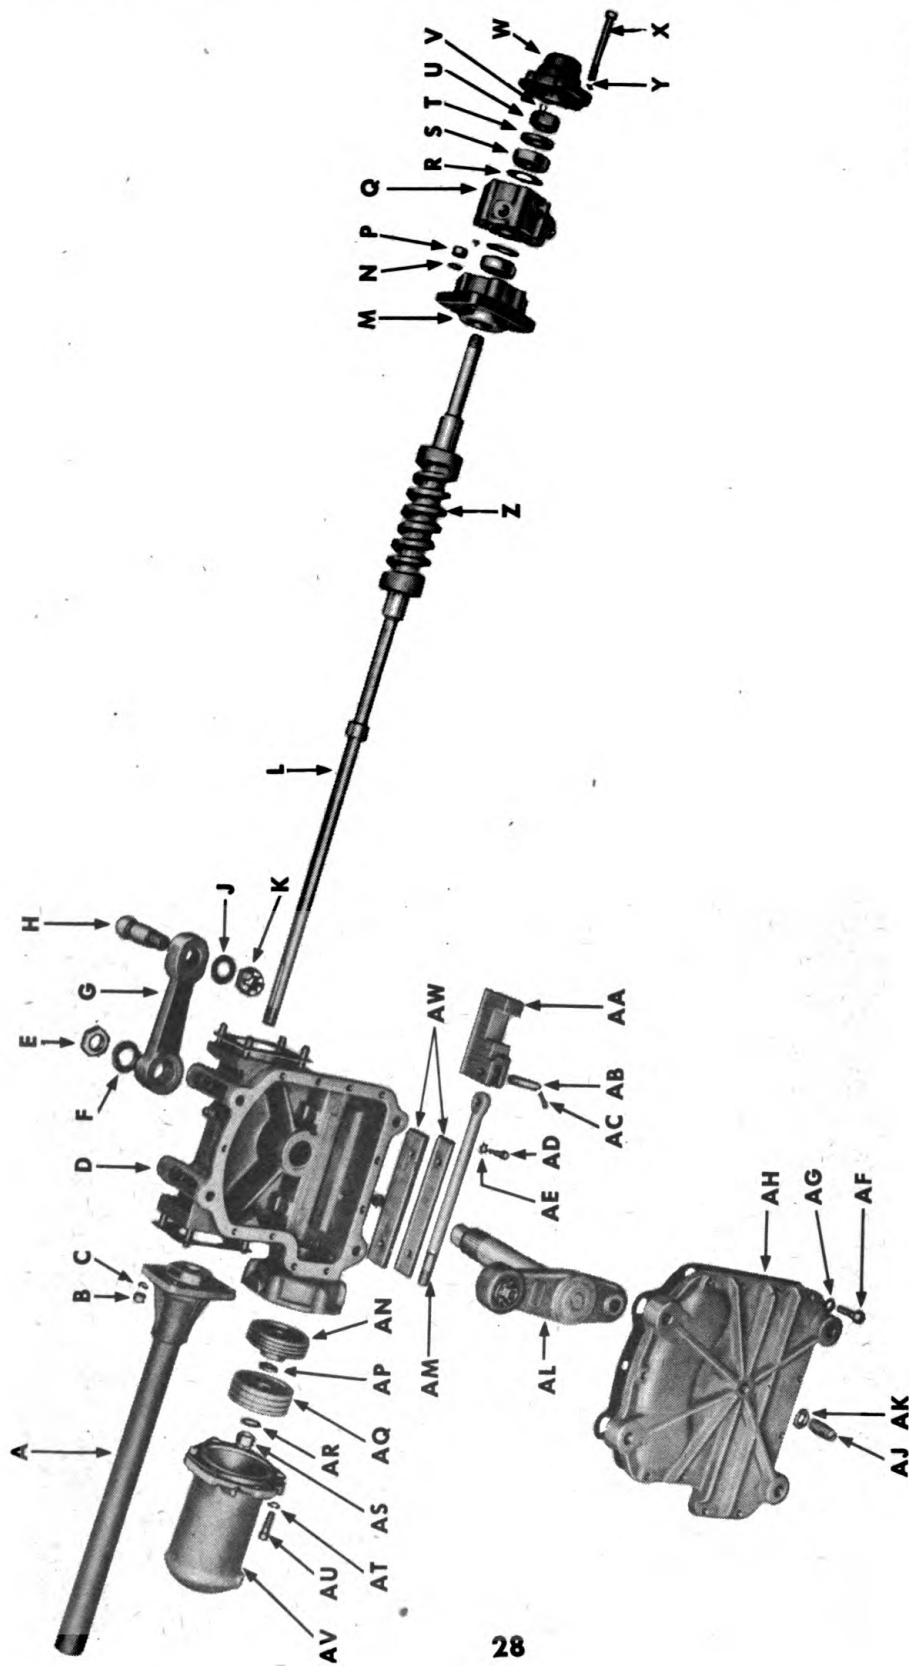

Figure 16—Steering Gear — Disassembled
d. Remove Upper Cover and Cam and Shaft (fig. 16). Remove four nuts and lock washers that hold upper cover to steering housing, and remove upper cover with jack tube assembly. Remove gasket. Remove four nuts and lock washers that hold control valve housing to steering gear housing, and remove valve housing and gasket. Remove bushing and oil seal from housing. Remove cam and shaft.
e. Remove Cylinder Housing and Lever Shaft Bushing (fig. 16). Remove nuts and lock washers that hold cylinder housing to gear housing, and remove cylinder housing and gasket. Press steering lever shaft bushing out of housing.
c. **Assemble Valve Housing (fig. 16).** Install bushing and oil seal in control valve housing. Install control valve housing and gasket, and secure with four nuts and lock washers. Install slides and slide block, and fasten slides with four cap screws and lock washers. Install piston rod in housing, and attach piston rod to slide block with pin and two cotter pins. Install steering lever shaft assembly in housing.
d. **Install Side Cover (fig. 16)** Install side cover and cover gasket on housing, and fasten with cap screws and lock washers. Install adjusting screw and lock nut turning screw up snug; then tighten nut.
Legend for Figure 16
e. **Loosen Housing Side Cover Adjusting Screw** (fig. 16). Loosen lock nut, then loosen side cover adjusting screw.
(3) **ADJUST BEARINGS** (fig. 16). Loosen screw in adjusting nut, and back off nut. Tighten nut until there is no perceptible drag at the steering wheel, and use a light grip on wheel. Tighten set screw, and remove adjusting flange tool. Install steering control valve cap, and secure with cap screws.
(2) **ADJUSTMENT** (fig. 16). Tighten side cover adjusting screw until a very slight drag is felt through midposition when turning the steering wheel, slowly, from one extreme to the other. Do not adjust in the end positions where backlash is normal and not objectionable. Hold adjusting screw and tighten lock nut. Recheck hard turning as in subparagraph c. Connect drag link.